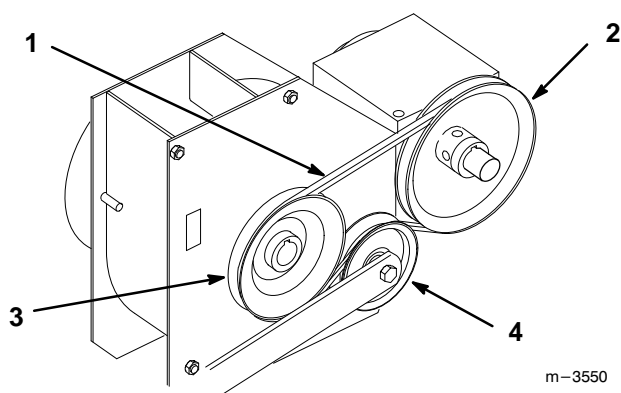

Figure 50
2. Push up on the spring loaded idler pulley behind PTO (power take off) gearbox to relax pressure on blower belt (Fig. 50). Lock into frame slot, refer to (Fig. 6).
4. Install new blower belt around PTO gearbox and blower pulleys. Then push up on the idler and place belt above idler pulley (Fig. 50).
5. Check that belt aligns with PTO, blower and idler pulleys (Fig. 50).